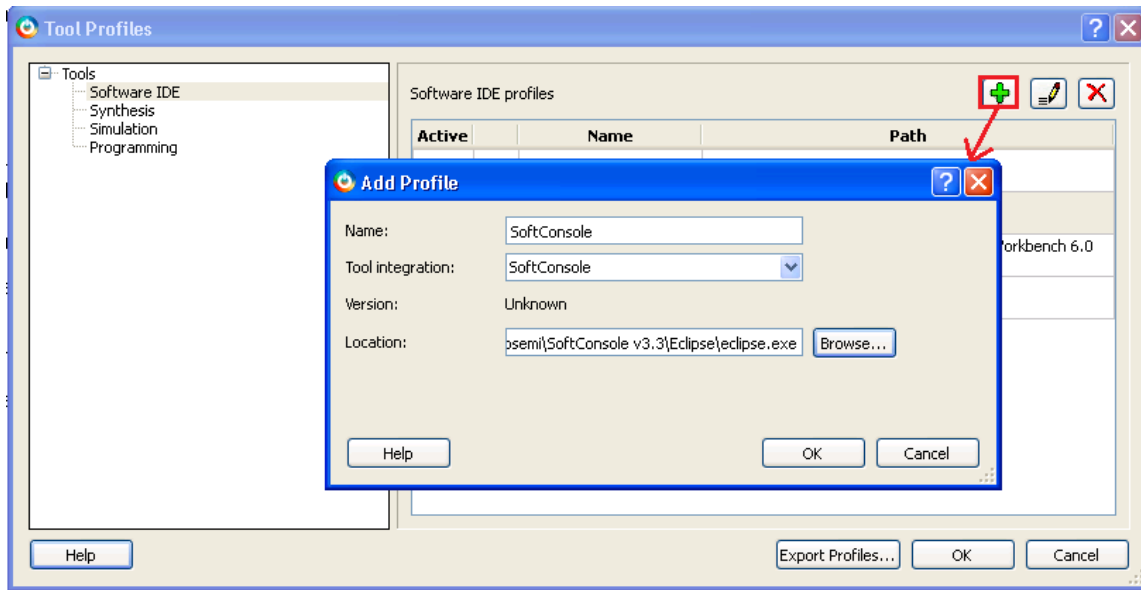

Figure 3 · Selecting SoftConsole as Software IDE
- Click **Edit Tool Profiles** and add SoftConsole by clicking **Software IDE**, as shown in Figure 3 .